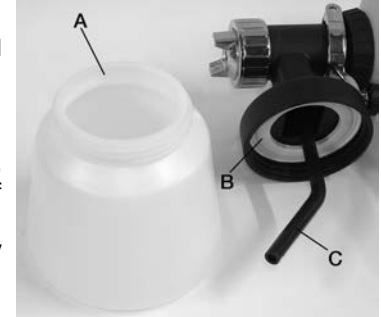

Figure 2
- 1) Unscrew the container (A) Fig.2 from the spray gun.
**IMPORTANT:** Make sure the gasket (B) Fig.2 is in place before screwing the container back onto the spray gun. The gasket is located in the collar of the spray gun and is used to create an air-tight seal between the container and the spray gun.
The suction tube (C) Fig.2 inside the container must be in place each time you use the spray gun. If you are going to be spraying in a downward direction, the angled end of the suction tube should be pointing toward the front of the gun. If you are going to be spraying in an upward direction, the angled end of the suction tube should be pointing toward the rear of the gun. By pointing the suction tube in the proper direction, you will not have to refill the container as often.